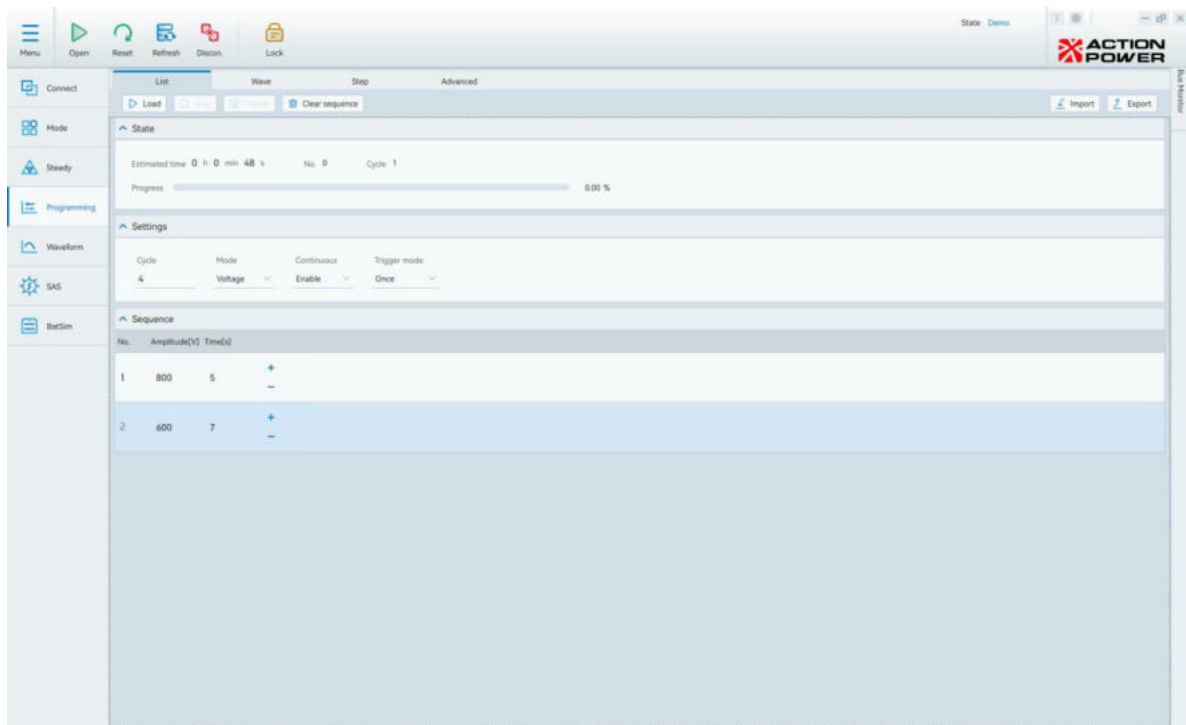
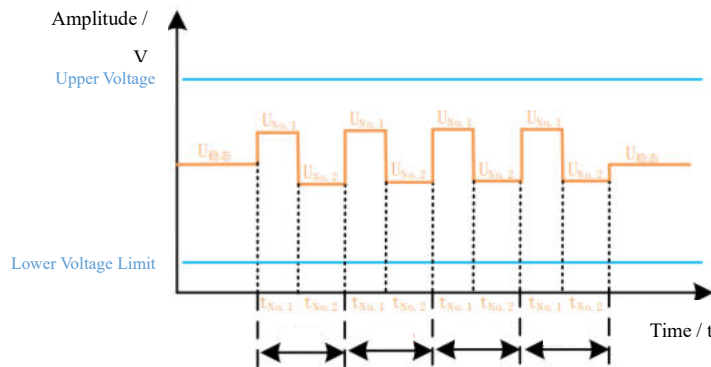

Figure 4.3.2 Example Diagram of List Programming Sequence Configuration
Figure 4.3.3 List Waveform Diagram
- Example: Select "Voltage" as the mode, set the loop count to 4, and add two sequences. The first sequence has a voltage amplitude of 800 and a duration of 5 seconds. The second sequence has a voltage amplitude of 600 and a duration of 7 seconds. The List programming sequence configuration is shown in Figure 4.3.2, and the corresponding waveform diagram is shown in Figure 4.3.3. In the waveform diagram, Uno.1 represents the first sequence, and Uno.2 represents the second sequence. After 4 cycles, the system stabilizes.